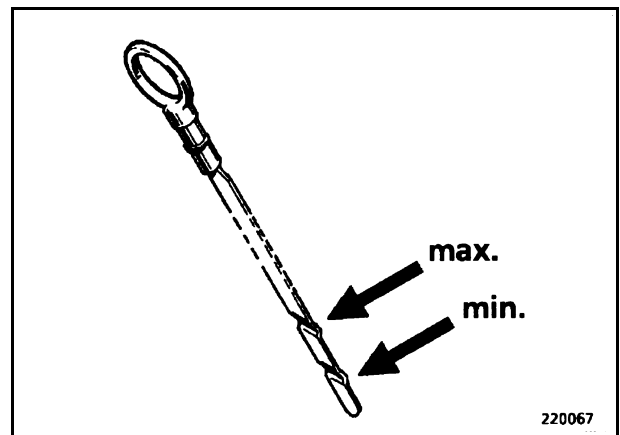

Fig. 3-11:
- Draw out dipstick a second time. The oil level should now lie between the marks (arrows, Fig. 3-11:).